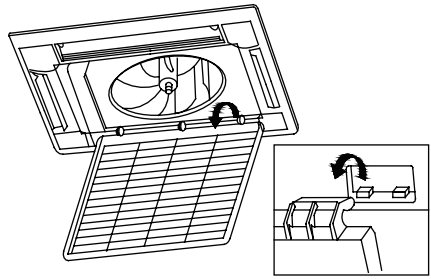

Fig. 21
- (1). Open the air inlet grille (Refer to the first step of "Clean Air Filter" above.)
- (2). Take out the air filter (Refer to the second step of "Clean Air Filter" above.)
- (3). Take out the air inlet grille. Open the air inlet grille at an angle of 45°, as shown in Fig. 21, and raise it.
- (4). Clean